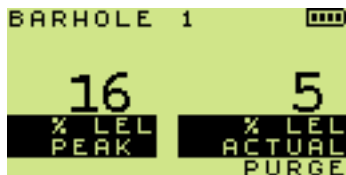

Fig. 6.6 Barhole Numbering
- At 'zero-time', the pump switches OFF and the peak and final sustained (actual) readings are displayed as shown in Fig. 6.6.